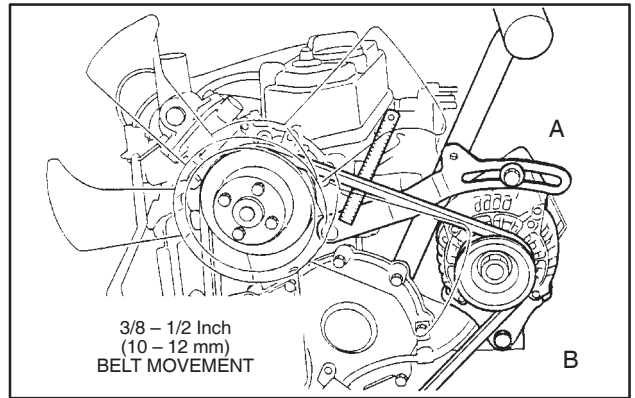

Fig. 24 – Adjusting V-belt
12. Install V-belt, Fig. 24.
13. Install alternator bolts (A) and (B).
- a. Torque bolt (A) to 19.0 Nm (170 in. lbs.).
- b. Torque bolt (B) to 61.0 Nm (45 ft. lbs.).